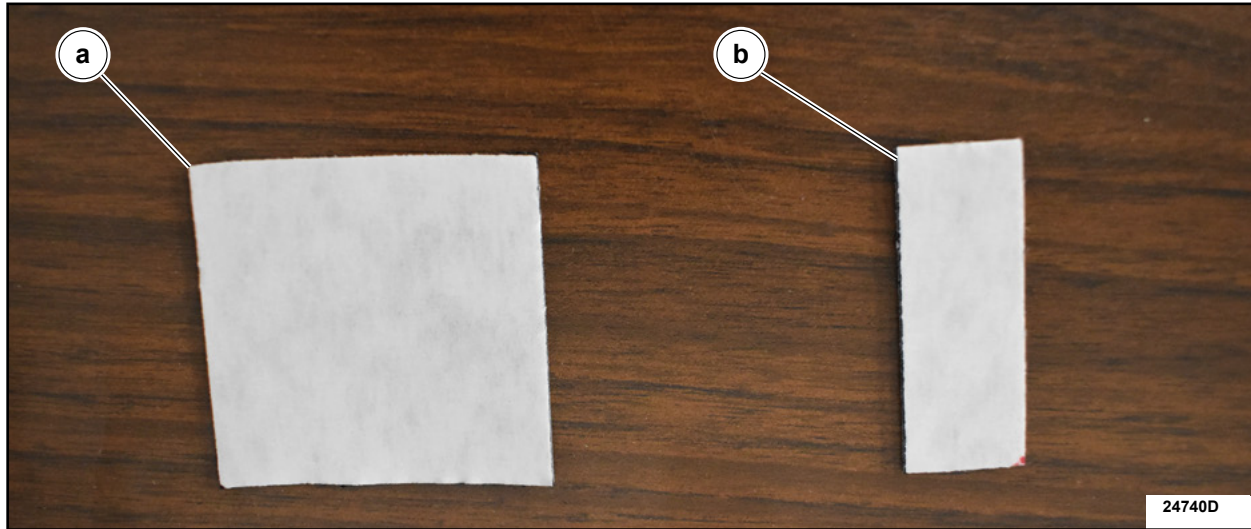

FIGURE 4
4. From the supplied foam backed butyl sheet, cut the following patches: See Figure 4.